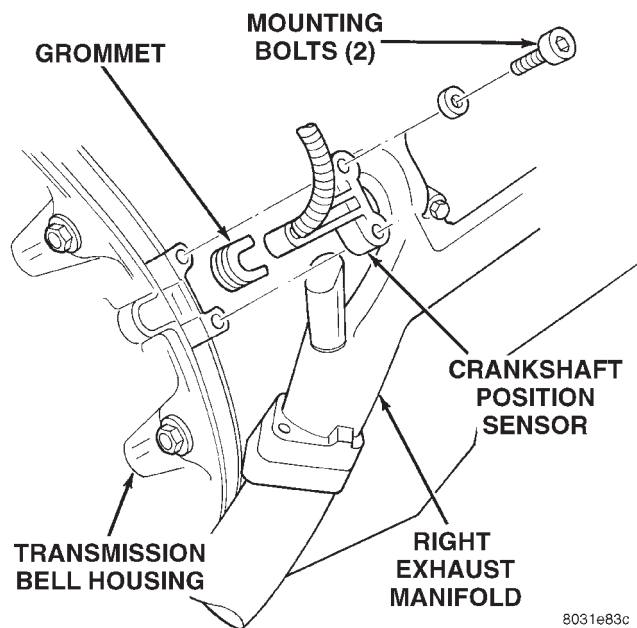

Fig. 34 Crankshaft Position Sensor—5.2L Engine
The sensor is bolted to the top of the cylinder block near the rear of right cylinder head (Fig. 34).
- (1) Disconnect crankshaft position sensor pigtail harness from main wiring harness.
- (2) Remove two sensor (recessed hex head) mounting bolts (Fig. 34).
- (3) Remove sensor from engine.